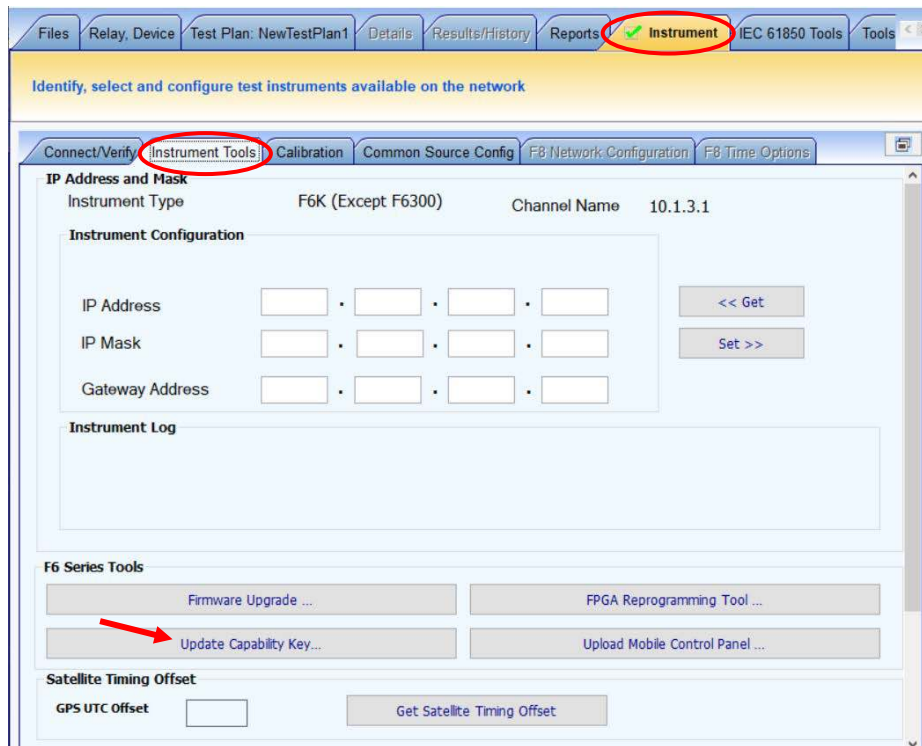

Figure 6. Location of “Update Capability Key” button
- 22) Choose Update Capability Key (in the F6 Instrument Tools section, shown in Figure 6)